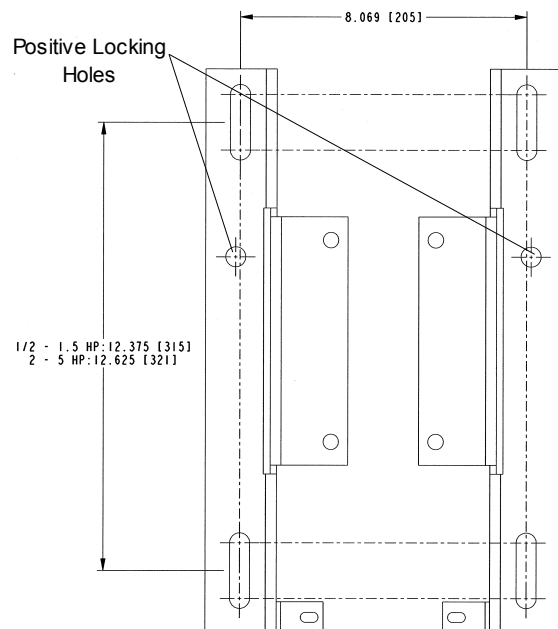

Figure 7 - MGH Mounting Holes
2. Locate the four mounting holes and the two positive locking holes, as shown in Figure 7.